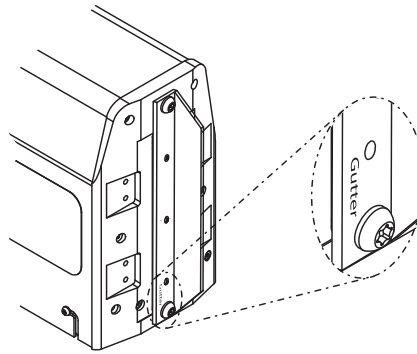

Figure 25 - Mounting the *Nozzle-Protector-Plate*
3. Clean the *Nozzle-Protector-Plate* with a lint free cloth and then screw it on to the front of the PTM, finger tight. Make sure that it is mounted so the text "Gutter", that is printed on the plate, is positioned at the bottom of the nozzles. It should be mounted as shown in Figure 25 on page 30.
2. Clean the *Nozzle-Protector-Plate* with a lint free cloth and then screw it on to the front of the print head, finger tight. Make sure that it is mounted so the text "Gutter", that is printed on the plate, is positioned at the bottom of the nozzles. It should be mounted as shown in Figure 25 on page 30.